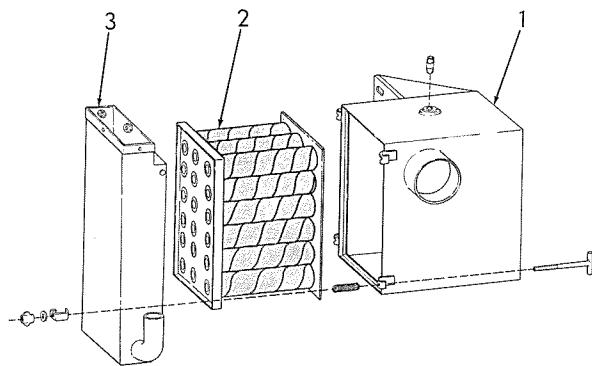

Fig. 4 — Air Cleaner (Type IV)
Two types of intake manifolds, as shown in Fig. 4, are used with the various engine applications. The intake manifold is sealed to the cylinder heads with gaskets and secured in place with nuts and lock-washers.
4. DESCRIPTION OF AIR CLEANER (TYPE IV) Fig. 4
- b. On units equipped with Type I (Fig. 1) or Type IV (Fig. 4) air cleaners, remove the pre-cleaner and cover the face of the filter cartridge with a piece of air tight rubberized or plastic material cut to the proper size, then install the pre-cleaner.
On units equipped with Type IV (Fig. 4) pre-cleaner, a metal plate (18 or 20 gauge) cut to the size of the panel, will be required to support the rubberized or plastic material.